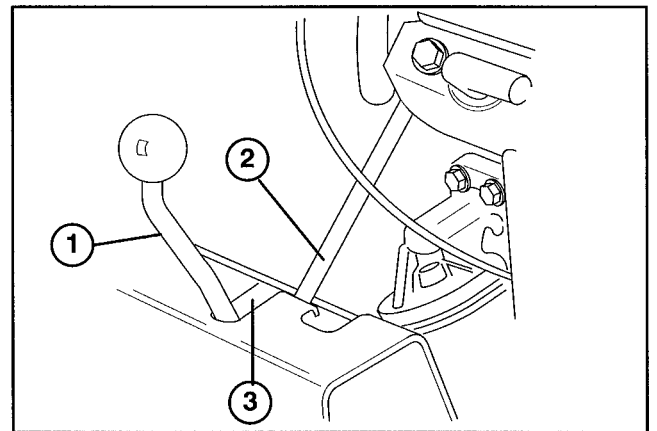

Figure 49
2. Check location of throttle control rod. Throttle control rod to be flush with left edge of neutral slot in gear shift plate (Fig. 49).